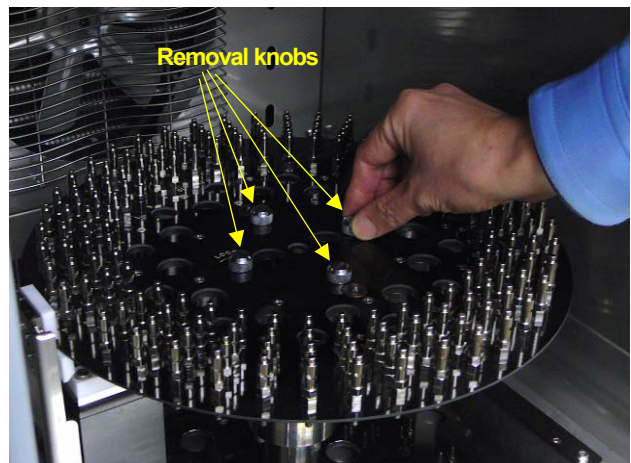

Fig.3-8 Installation of turn table
③ Rotate four removal knobs clockwise and fix the turn table (see Fig.3-8).